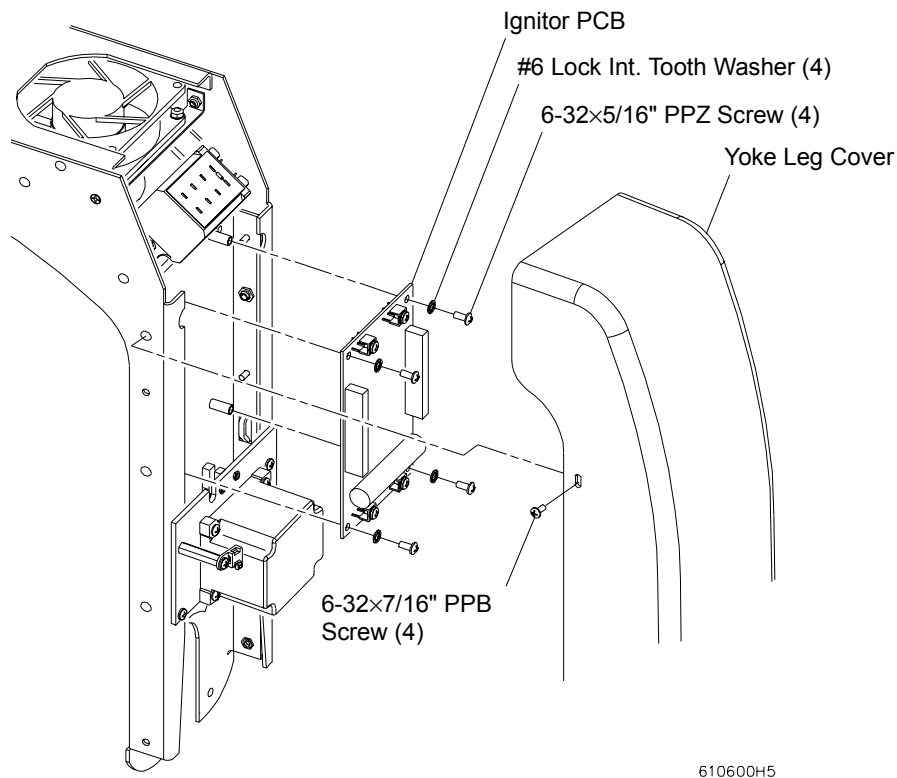

Figure 2-12: Ignitor PCB Replacement
- Step 2. At tilt-side leg, remove yoke leg cover by removing four 6-32×7/16" PPB screws. **Figure 2-12.** To find tilt-side leg, refer to “Yoke Components” on page 9.